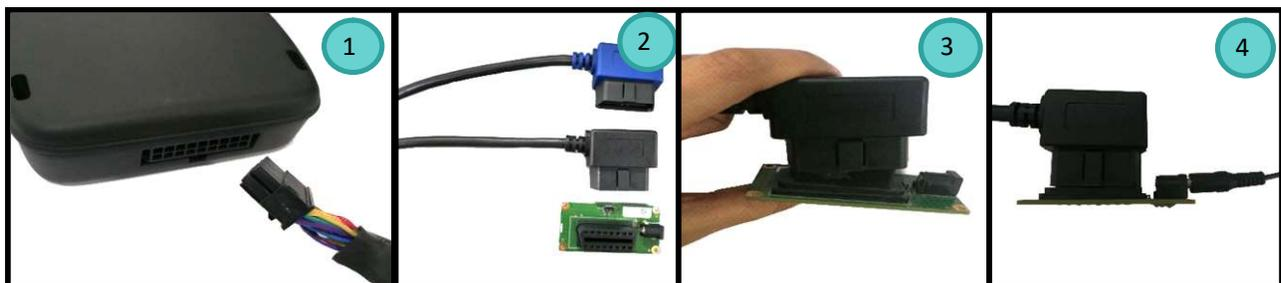

Figure 8: Procedure to power on the device using Y cable
- Place the board and Connect the Y cable as shown in image (1) and image (2) of Figure 8
- Connect one end of the Y cable to the Power connector board as shown in the image (3) of Figure 8
- Provide power supply to the power connector board as shown in the image (4) of Figure 8
- Power on the Telematics control unit. Follow the procedure as mentioned in Figure 8
- Power on the Telematics control unit as described in Figure 8